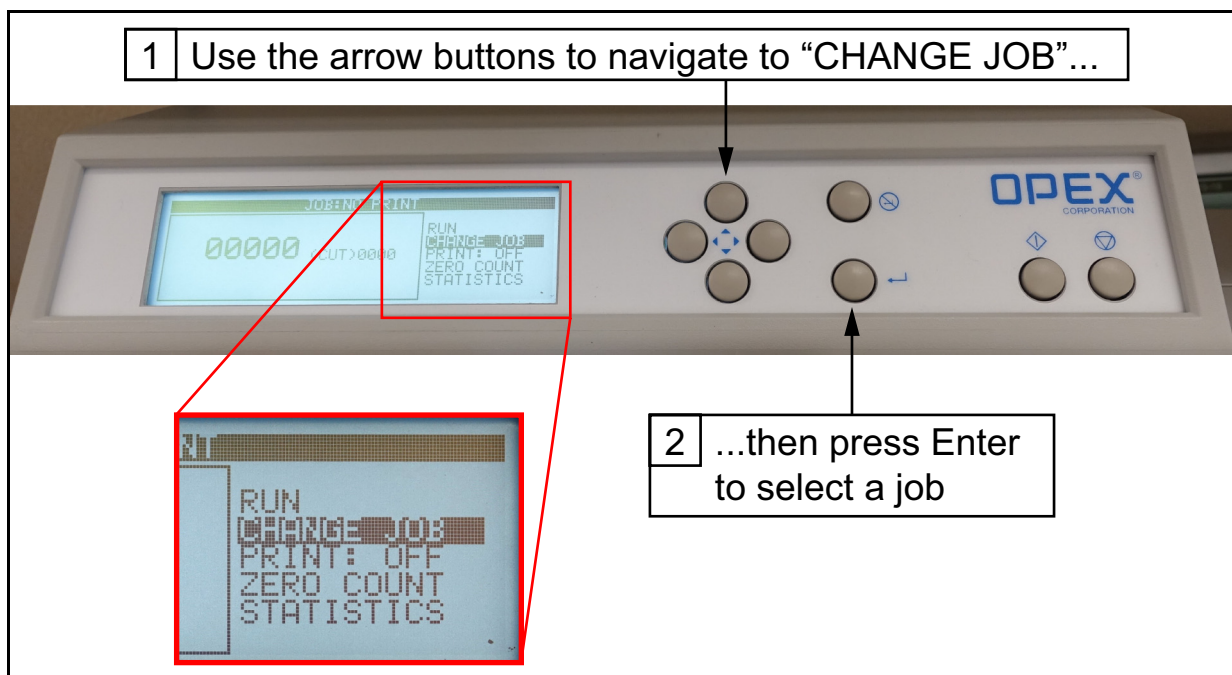

Figure 4-8: Getting to the Select Job screen
7. Select a job by highlighting it with the **arrow buttons**, and then pressing **Enter** (Figure 4-8).